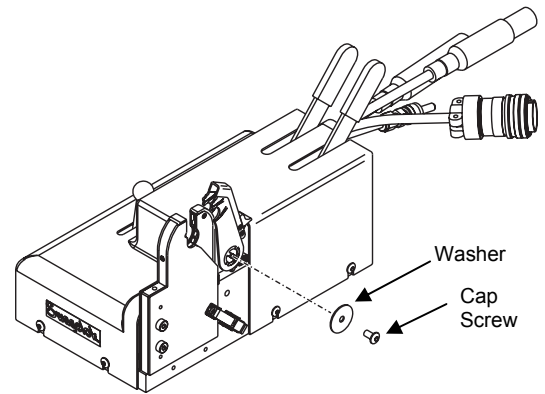

Figure 32 *Removing the Cap Screw and Washer*
3. Remove the cap screw and washer. See Figure 32.